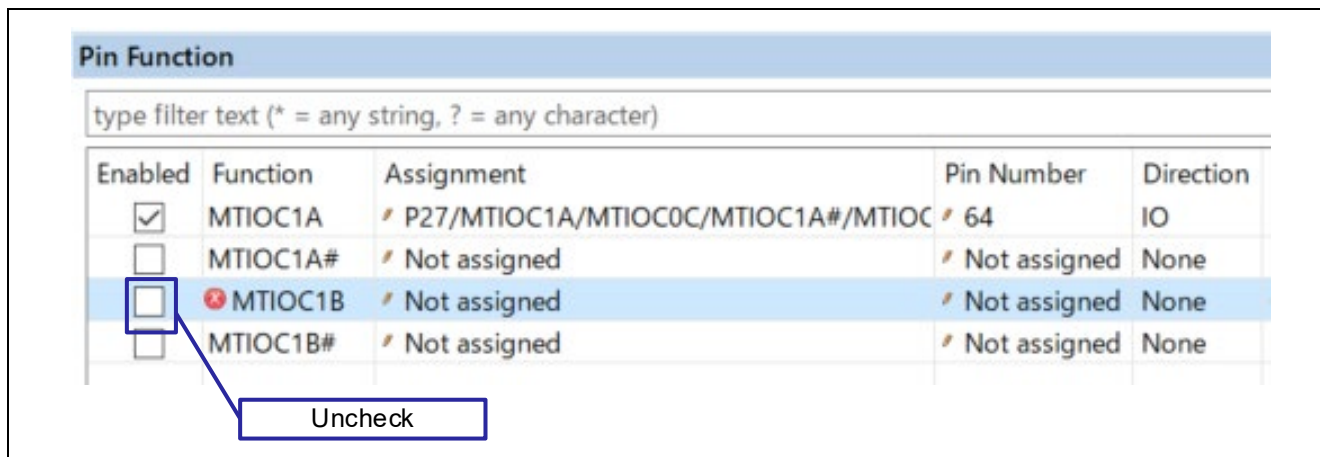

Figure 3.12 Pin Function Settings
If you specify the settings in Figure 3.12, a configuration error occurs in the phase counting mode timer as follows. However, this error is not harmful in this sample code.
After code is generated, add the following code to the R_Config_MTU1_MTU2_Create_UserInit function in the Config_MTU1_MTU2_user.c file. Make sure that you select the MTIOC1B check box that you cleared in Figure 3.12.
- In the Configure pane of the Components tab, specify the MTIOC1B settings as shown in Figure 3.15, and then specify the pin settings as shown in Figure 3.12.